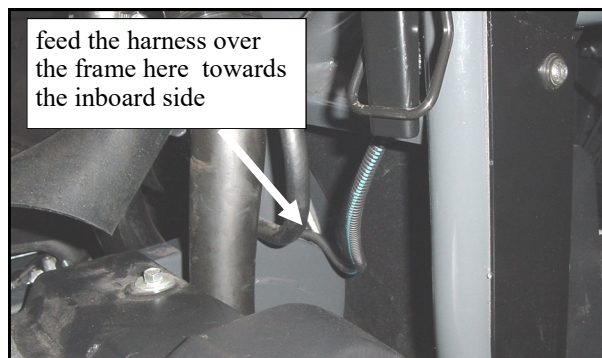

Fig. 3.5b (view from rear of passenger's side) (RTV 400)
3.5b Per fig 3.5b, feed the harness inboard over the frame tube as shown.